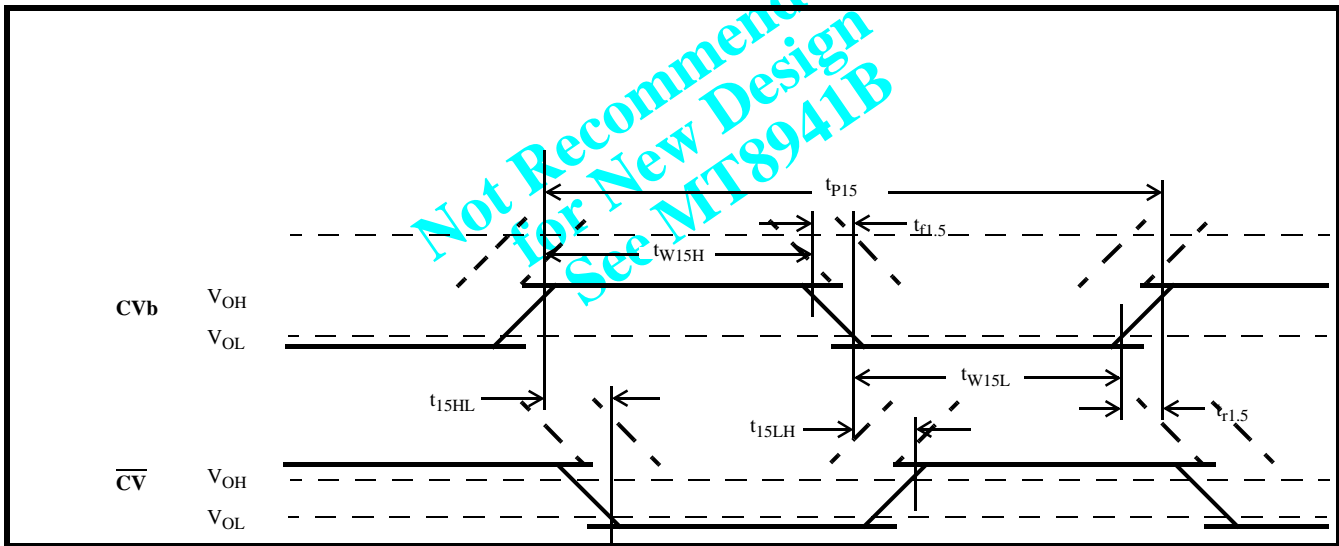

Figure 14 - Timing Information for DPLL #1 in NORMAL Mode
## AC Electrical Characteristics† - Voltages are with respect to ground (VSS) unless otherwise stated. (Refer to Figure 14)
**AC Electrical Characteristics†** - Voltages are with respect to ground ( $V_{SS}$ ) unless otherwise stated. (Refer to Figure 14)